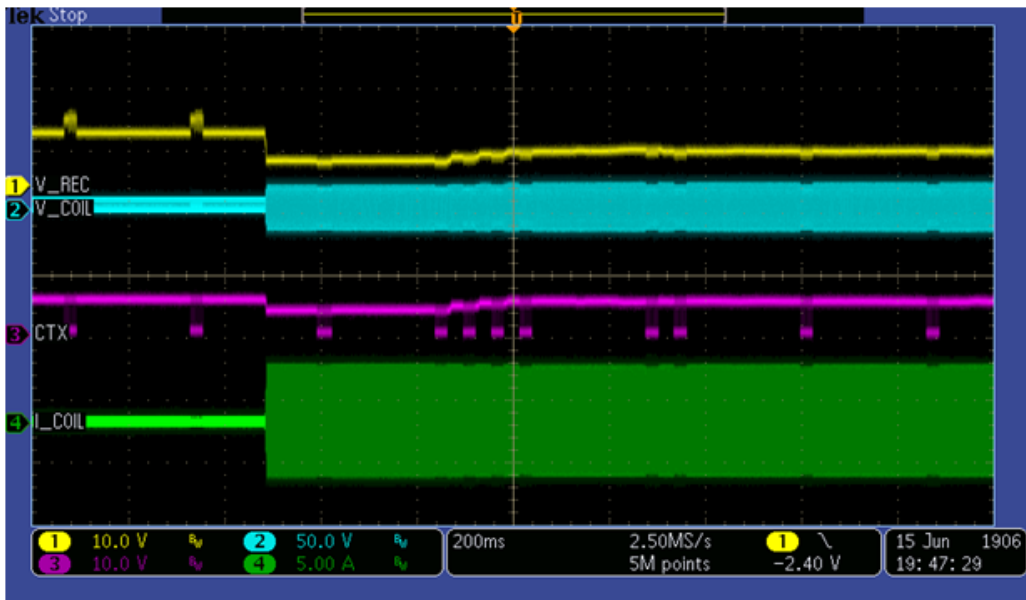

Figure 26. System response for a 3 A load
2. System response measurement for a 3 A load is shown in Figure 26.